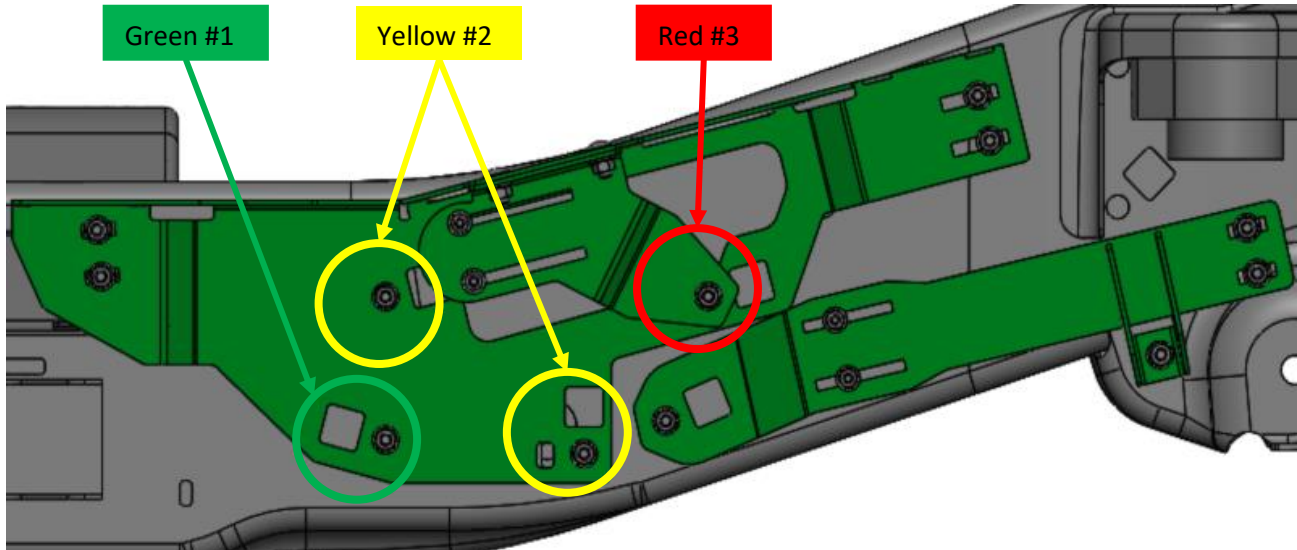

Figure 30 - View of Frame with Frame Clip location circled; RAPTOR-301, 302, 303 shown installed
- 10.9.4. Lift RAPTOR-301 into place, as shown in Figure 30 below.
10.10.5. See Figure 30 above for Brackets installed in proper location and orientation.